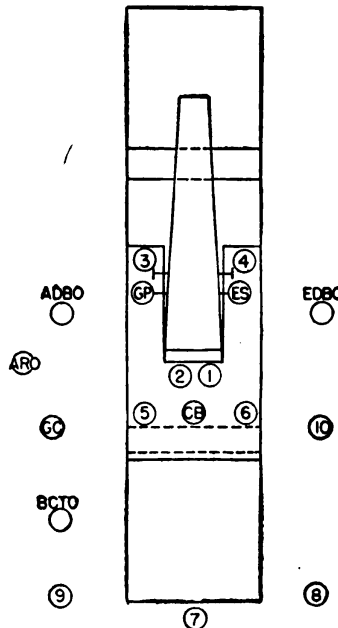

FIGURE 9.—Posts of cannoneers at command **DETAILS, POSTS.**
*Q.* What are the posts of the cannoneers at the command **DETAILS, POSTS?** *A.* See figure 9.